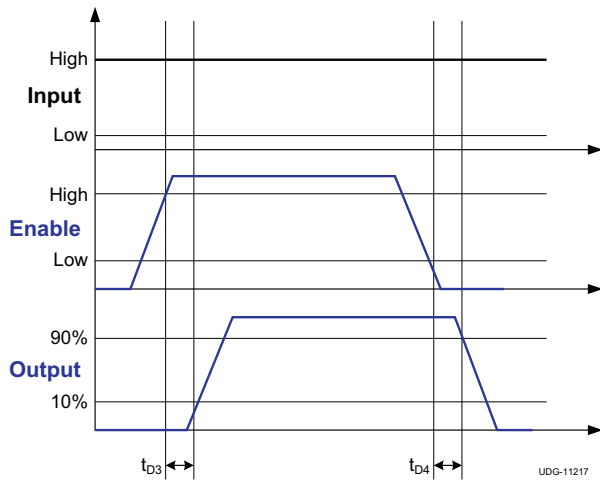
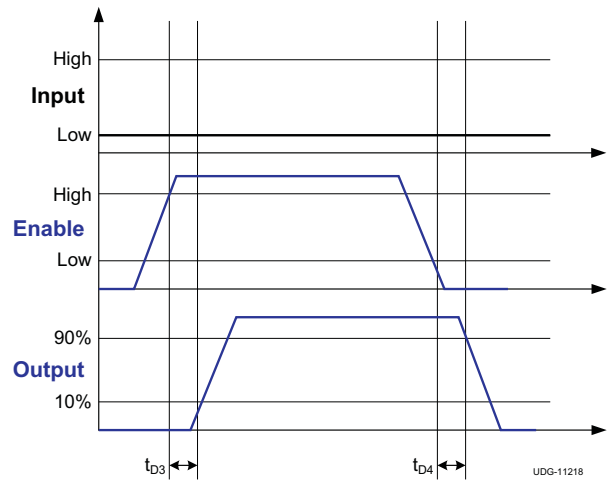
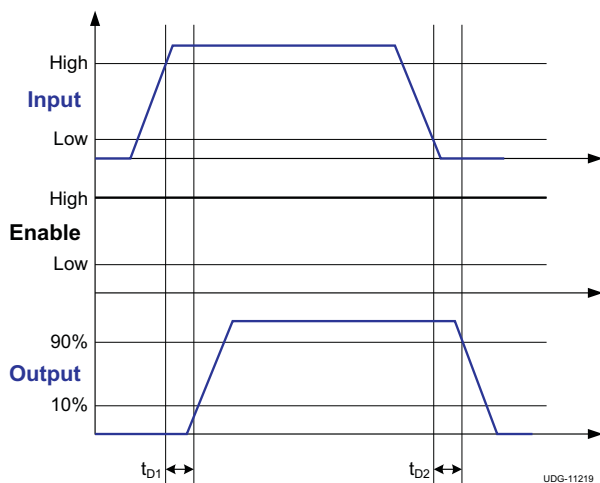
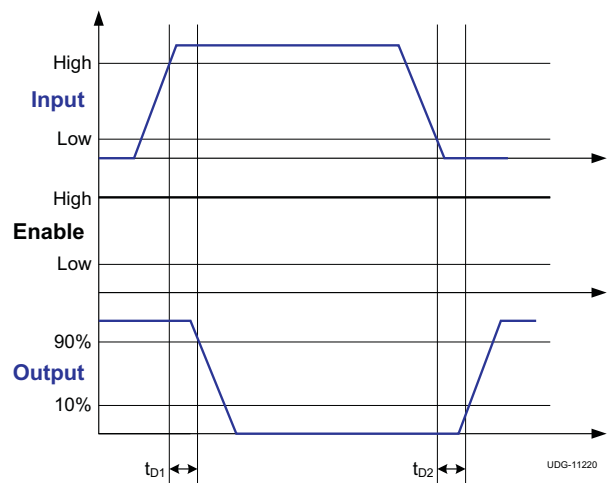

Figure 1. Enable Function (For Non-Inverting Input Driver Operation)
Figure 2. Enable Function (For Inverting Input Driver Operation)
Figure 3. Non-Inverting Input Driver Operation
Figure 4. Inverting Input Driver Operation
(3) See timing diagrams in Figure 1, Figure 2, Figure 3 and Figure 4